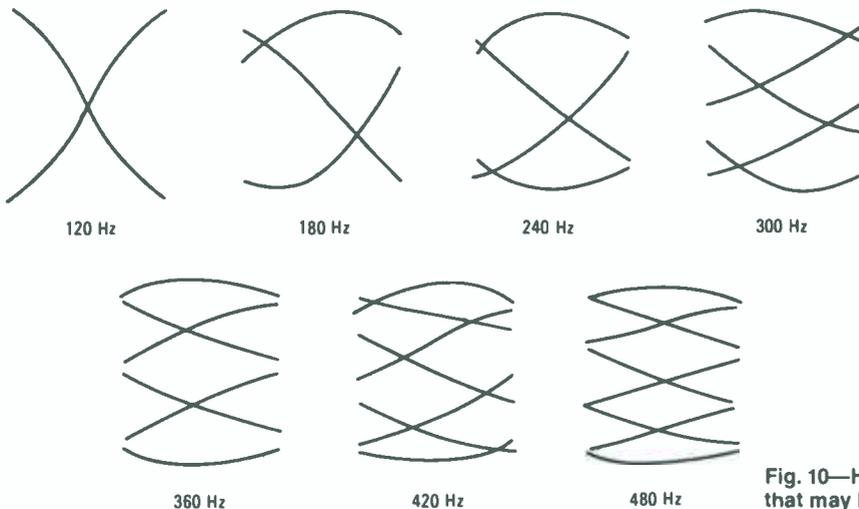

Fig. 10—Here are waveforms for ten different frequencies that may be used to calibrate the dial shown in Fig. 8.
5. Change the coarse frequency to the next highest range (e.g. 120 to 1200 Hz), and read just the Vernier control to obtain the figures shown in Fig. 10. Mark each in turn on your chart. Those will give you the 120 Hz to 480 Hz positions, or 1/120 to 1/480 second. On some oscilloscopes, those latter speeds might lie quite close together.